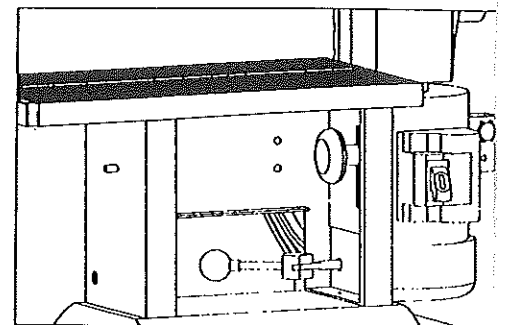

Fig.8
2. Loosen lock handle (A. Fig. 8) and move motor and sanding table toward the horizontal position. Do not lock.